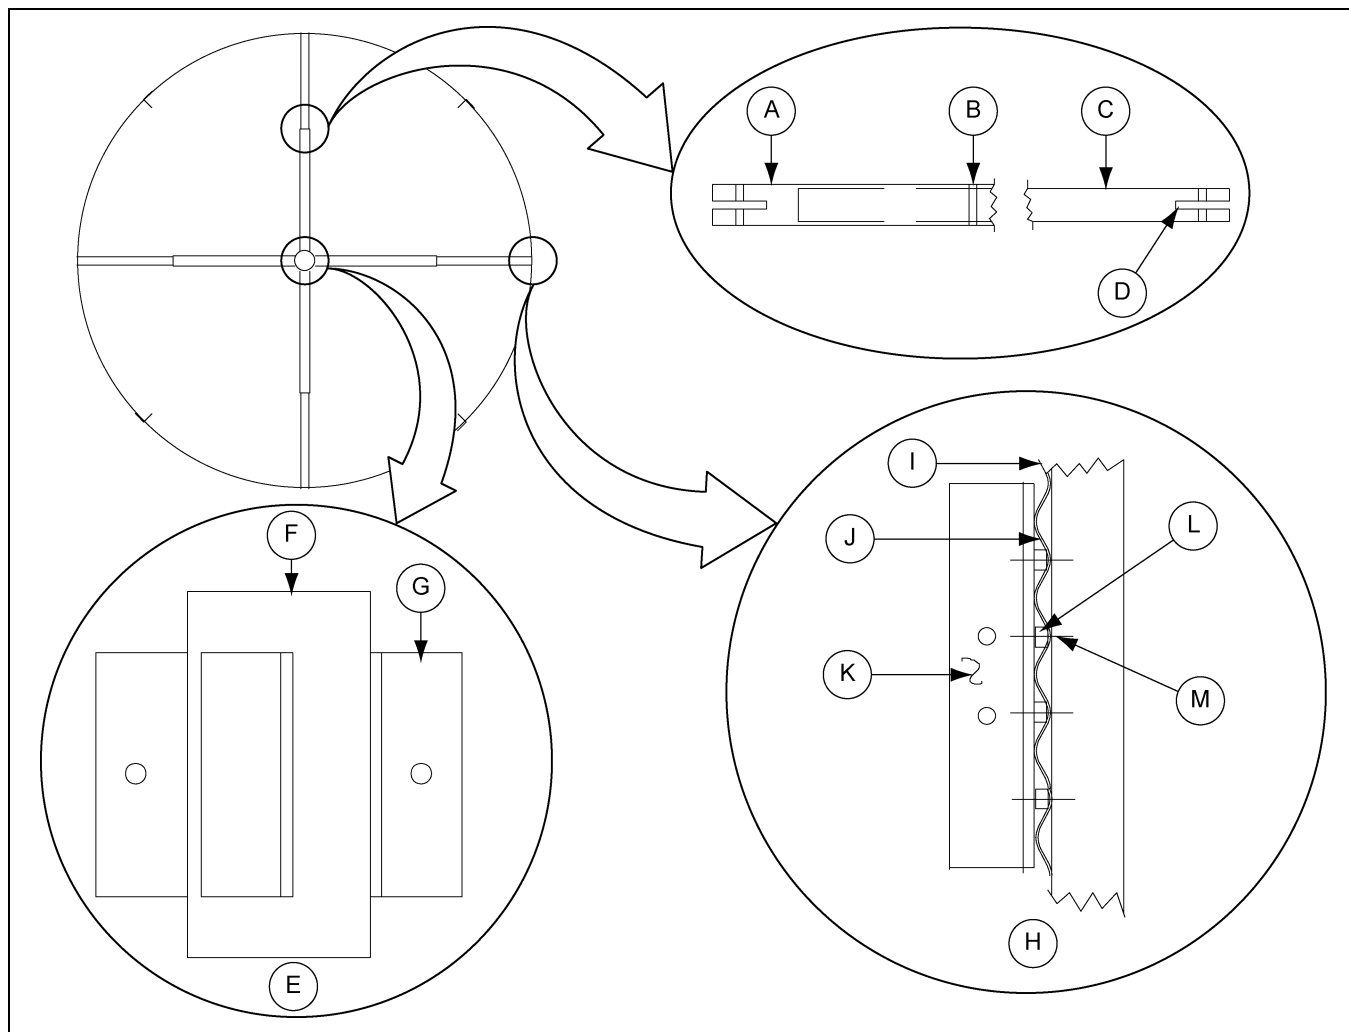

Figure 15C
- b. To prevent distortion of the assembled tank, a “spider” or horizontal bracing is recommended. A suggested method of this is illustrated in the following details. This may be done by using a center “hub” and pipe. The center hub is made of 6" schedule 40 pipe with 3" x 3" x 3/8" angle welded to it and the pipe bolting to the hub. The second smaller pipe will bolt to the lifting brackets attached to the stiffeners. (Refer to Figure 15C on Page 81.) Typical number of horizontal members that should be used are shown in the chart below.